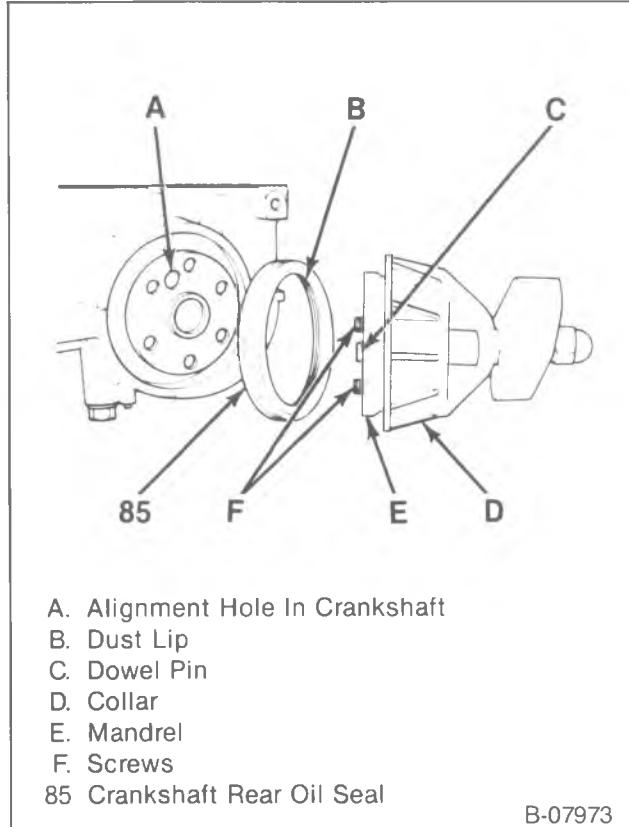

Figure 31—Installing the Crankshaft Oil Seal
2. New seal over the mandrel of J 34686 until the dust lip (back of the seal) bottoms against the collar of the tool (figure 31).